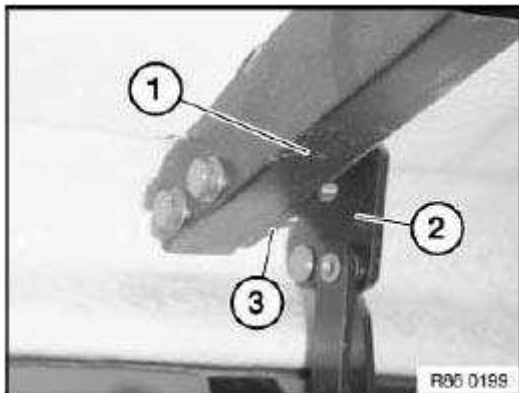

Fig. 154: Identifying Spacer Plate Between Mounting Bracket And Hinge
Check lid in transition (C) to hood for displacement and correct if necessary (flush). Correction is made by inserting or omitting spacer plates (refer to **Fig. 154**).